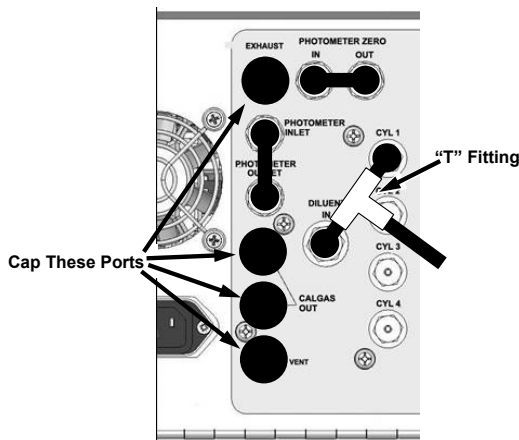

Figure 6-7. Gas Port Setup for Auto-Leak Check Procedure
Refer to Figure 6-6 and Figure 6-7 for this procedure. To perform a leak-check on the calibrator, start by removing the cover from the calibrator. For instruments with basic configuration, skip to Step 3. For instruments with the optional O₃ photometer installed, bypass the pressure/flow board, the pump, and the O₃ generator as follows:
4. Use the 1/4" caps to cover the following gas outlet ports on the calibrator's rear panel (see Figure 6-7).
6. Using a "T" type pneumatic fitting, connect a gas line from the zero air gas source to the Diluent In and to the CYL 1 port u (see Figure 6-7).